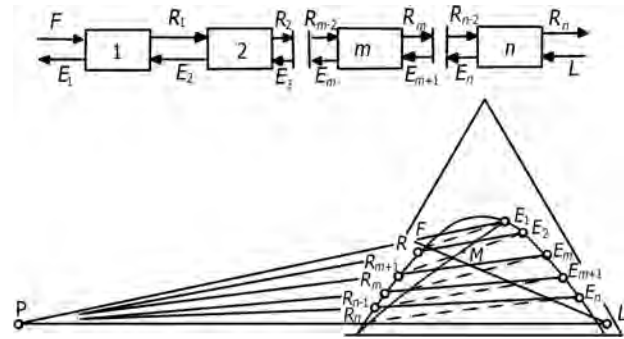

FIGURE 17.49 Multistage extraction with counterflow.
- Figure 17.49 illustrates the method.